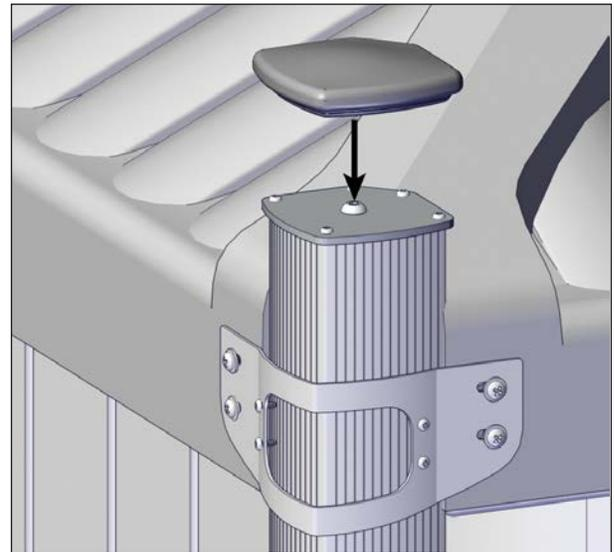

FIGURE 47: RUBBER CAP INSTALLATION
8. Install the rubber caps on all posts. These caps protect the post assembly tops from weathering, see Figure 47.